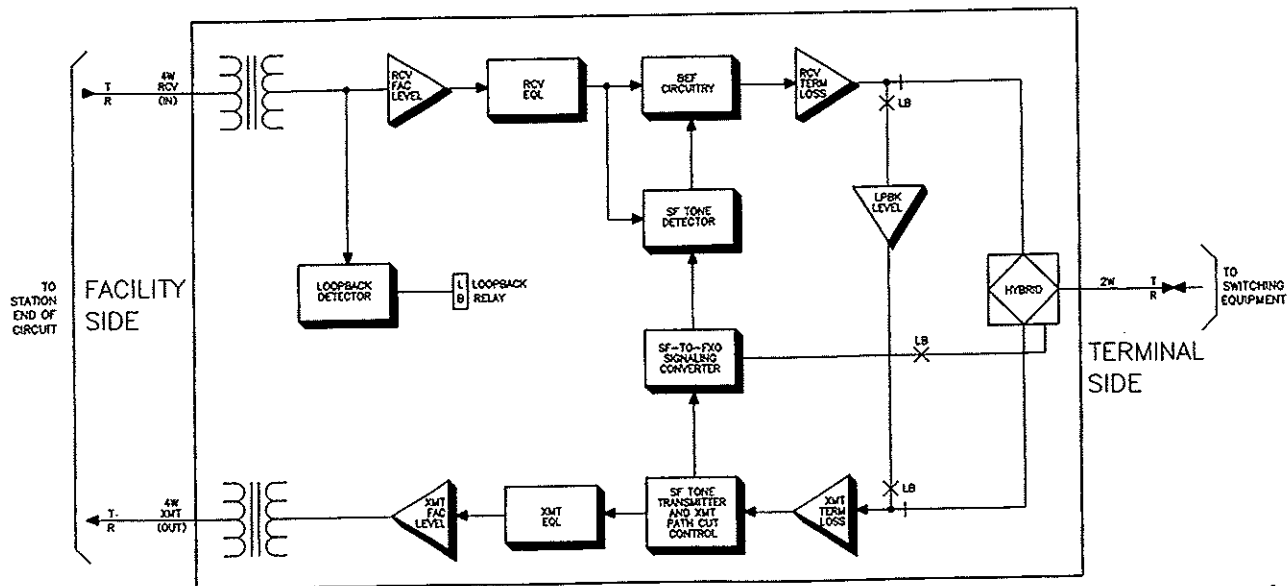

figure 7. Loopback route through 6124A
**2.25 Overview.** Integral facility-side transmission and signaling loopback circuitry in the 6124A allows local or remote testing of both the module and the facility. This loopback circuitry can be activated either manually (locally) or via 2713Hz tone (remote two-tone loopback). A prescription loopback-level-control circuit introduces from 0 to 23dB of loss or from 0 to 24dB of gain into the loopback path in switch-selectable 1dB increments to provide true equal-level transmission loopback. Figure 7 shows, in simplified form, the transmission and signaling loopback paths through the module.